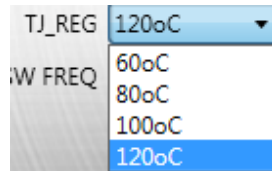

Figure 18: Thermal Regulation Threshold Setting
16. Set the thermal regulation threshold (see Figure 18) Its range is 60°C to 120°C, and the default value is 120°C.